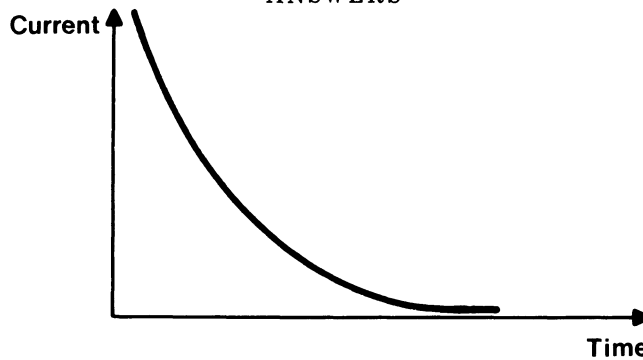

FIG. 4.14
42. (a) A capacitor, when charged through a resistor, charges exponentially, i.e. the rate at which electric charge builds up on the capacitor decreases with time. Since current is the rate at which charge flows per second then it can be seen that the current is large at first and decreases with time (see Fig. 4.14).